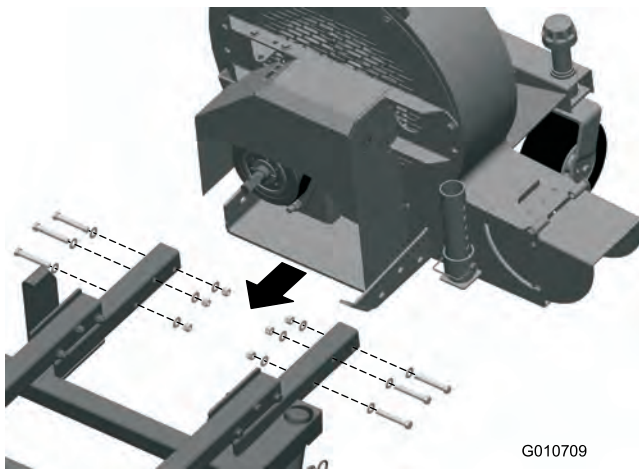

Figure 3
4. Slide the blower into the attachment frame arms and loosely secure it using 6 bolts (7/16 x 3 inches), 6 locknuts (7/16 inch), and 12 washers (Figure 3).